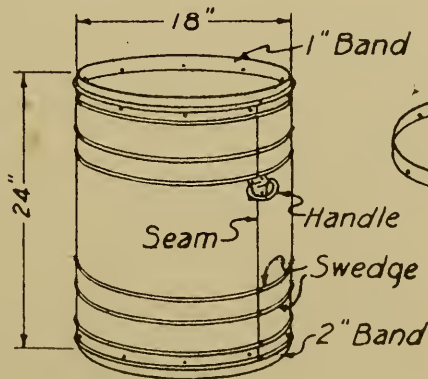

FIG. 3.
8. Make four legs and rivet to each corner of can. (See Fig. 3 for dimensions.)
5. Cut legs to the dimensions as shown in sketch. (Fig. 3).
4. Form to shape in forming machine with rod on the outside. (Fig. 3).
15. Rivet handles under second swedge from top of can, one on the seam and other on the opposite side. (Fig. 3).